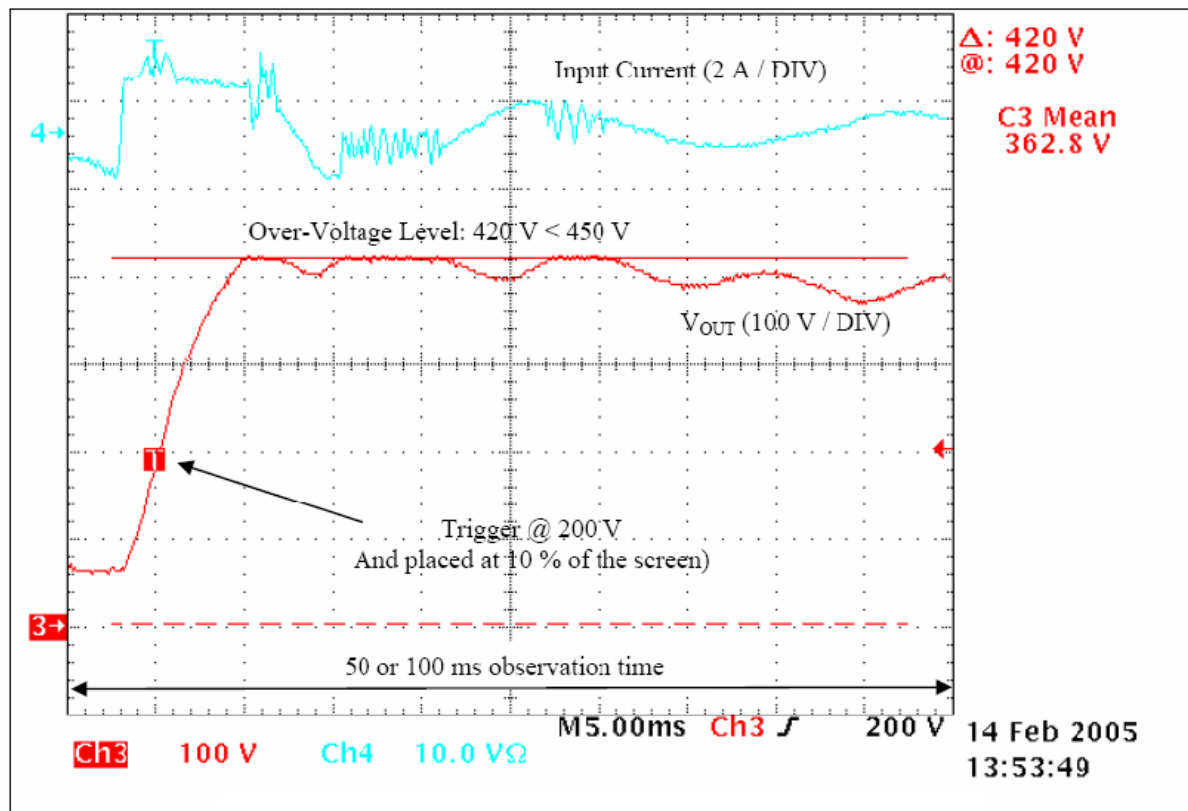

Figure 15. Over-Voltage Protection (Start-Up Sequence @ 220 V_{AC})
10. Abruptly apply the power source. Check that the output voltage keeps below 450 V (Over-Voltage Protection) (see Figure 15).